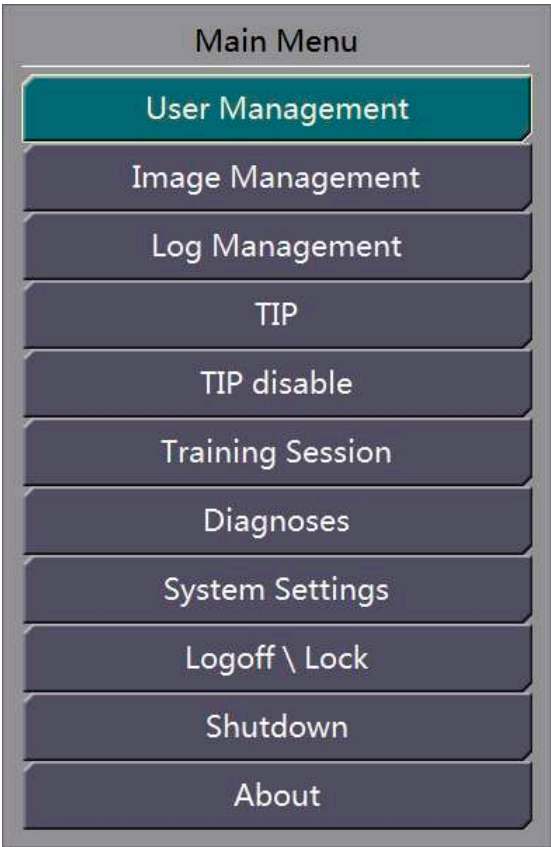

Figure 19-1 Interface of Operator Main Menu
Step 1 Choose About or press  on the operation keyboard to display the main menu, as shown in Figure 19-1.